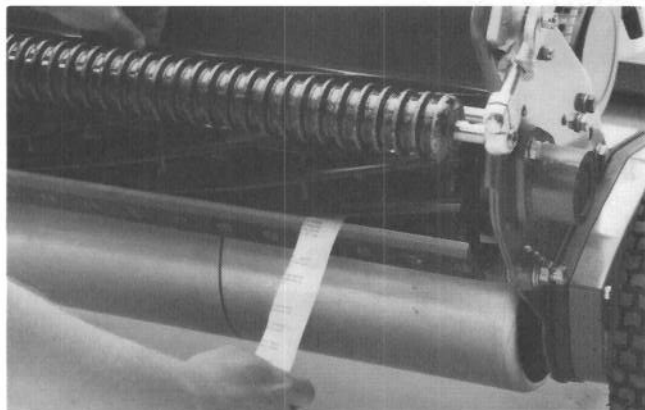

Figure 12
3. On one end of front side of reel, insert a long strip of newspaper between reel and bedknife (Fig. 12). While slowly rotating reel forward, tighten bedknife adjusting screw, (on same end of reel), one flat at a time, until paper is pinched lightly, which results in a slight drag when paper is pulled (Fig. 11).